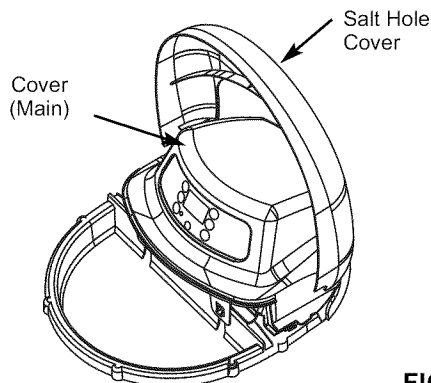

FIG. 23
After installing your water softener, replace the covers. Angle the covers so the main cover clips onto the back first, then bring down in front and clip on the two (2) tabs inside the rim of the salt hole and lower the salt cover closed. See Fig. 23.